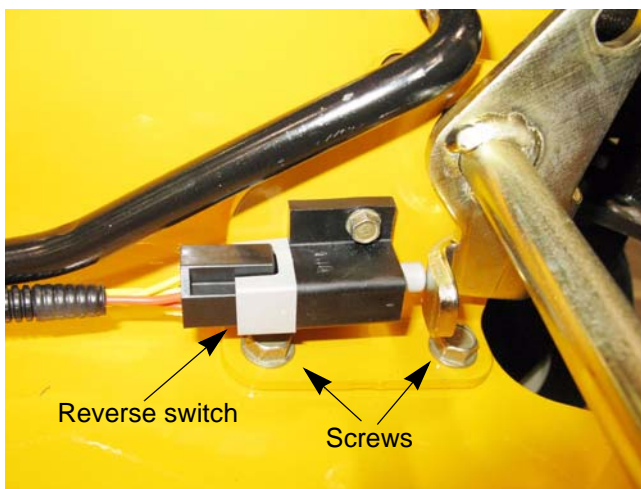

Figure 4.45
14. Remove the reverse switch. See Figure 4.45.